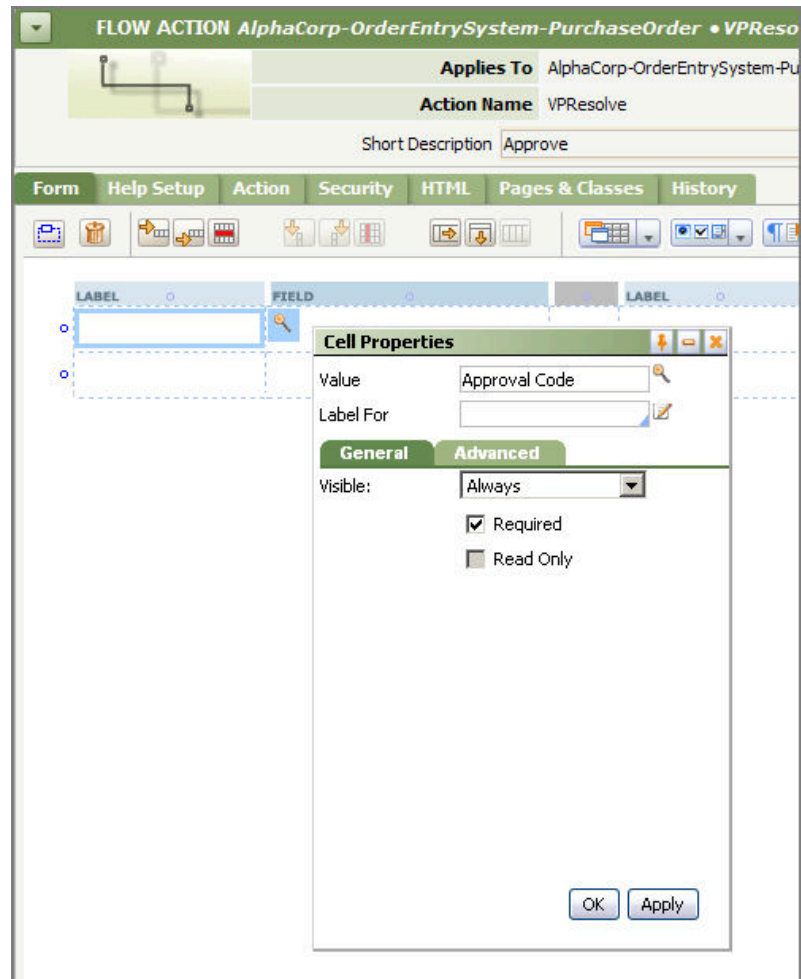

Figure 4-5. Approval Code Label on Flow Action Form
- b. Select the upper-left Label cell and click the magnifying glass icon (🔍). This opens a Cell Properties panel. Enter the text label (user prompt) **Approval Code** in the Value field as shown in Figure 4-5. On the General tab, click the Required box. This will display a required icon (★) next to the label. Click OK.